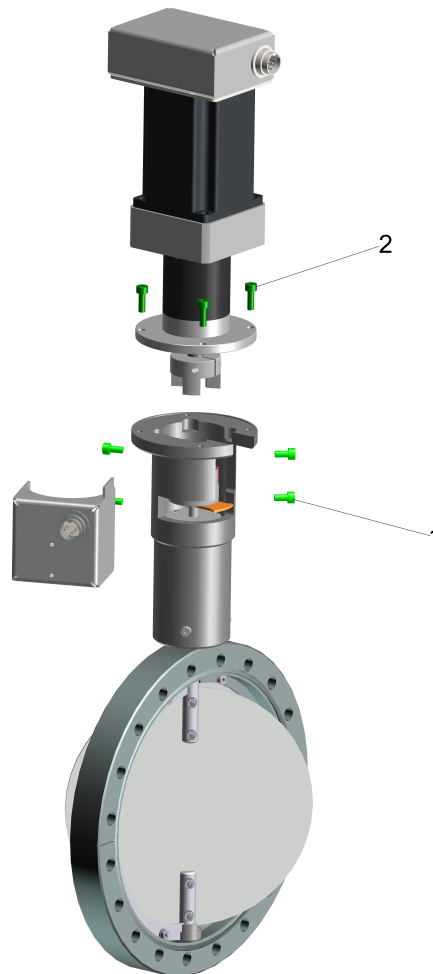

Figure 4 Schematic of the UHV throttle valve (single blade), showing the parts that must be removed prior to bakeout.
- Differential encoder (four screws - #1 shown green in Figure 4)
- Stepper motor (four screws - #2 shown green in Figure 4)